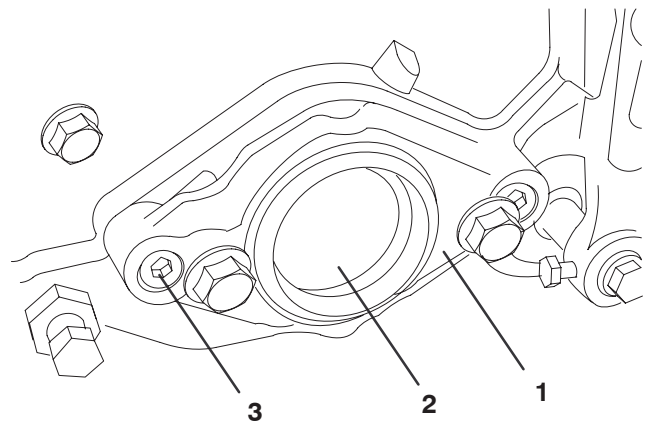

Figure 15
- C. On right end of cutting unit, remove plastic plug from bearing housing (Fig. 15).
- D. Remove the 2 allen head screws securing the motor mount to the right end of the cutting unit. Remove the motor mount (Fig. 15).